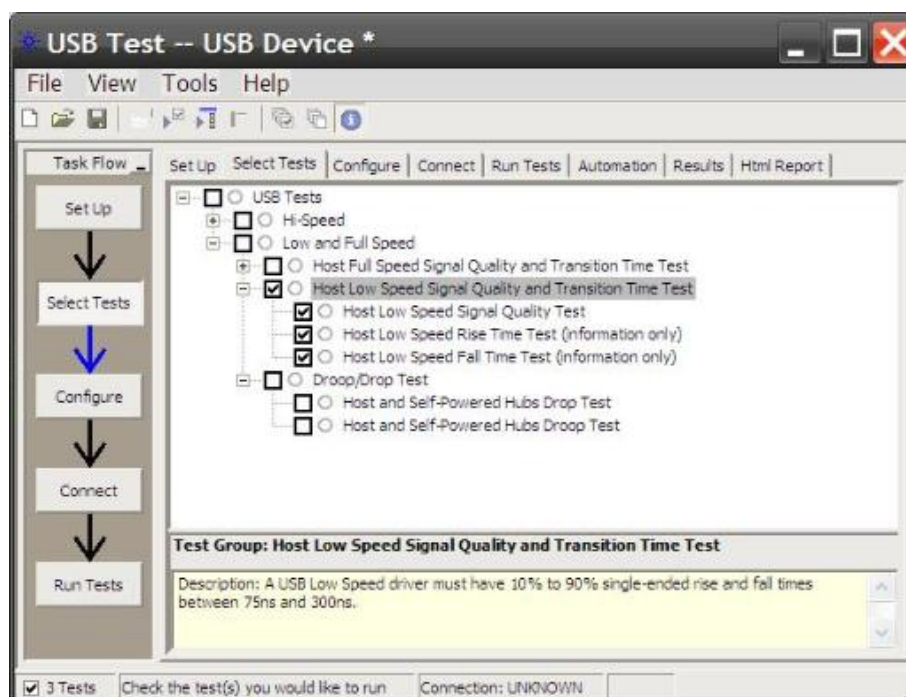

Figure 19. Automated Test software setting for the Downstream LS Signal Test
1. Select the test items in the USB Automated Test software on the oscilloscope as shown in Figure 19. Ensure that you set the Test Type configuration option to Low-Speed Near End before running the test.